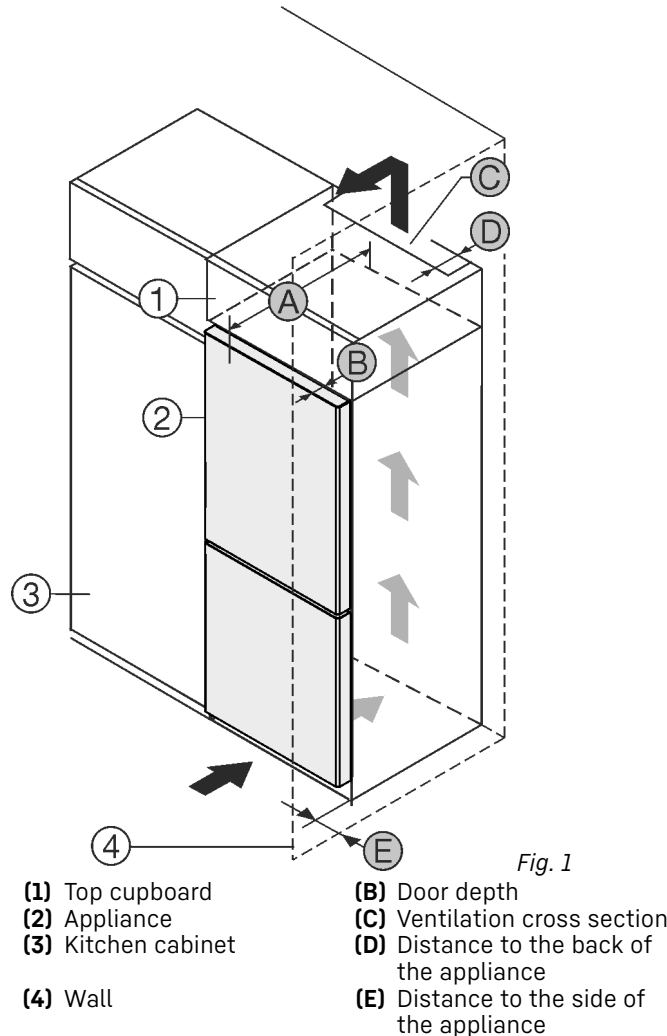

Fig. 1
Set up the appliance directly next to the kitchen cabinet Fig. 1 (3).
There must be a ventilation shaft at the depth Fig. 1 (D) of the back of the top cupboard over the entire width of the top cupboard.
The ventilation cross-section Fig. 1 (C) must be maintained under the ceiling.
If the appliance is set up with the hinges next to a wall Fig. 1 (4), the distance between the appliance and the wall must be at least 13 mm.
If the appliance is set up with the hinges next to a wall Fig. 1 (4), the distance between the appliance and the wall must be at least 20 mm.
In order to be able to fully open the door, the appliance must protrude by the depth of the door Fig. 1 (B) from the front of the kitchen cabinet. The appliance may protrude further depending on the depth of the kitchen cabinets Fig. 1 (3) and whether wall spacers are used.